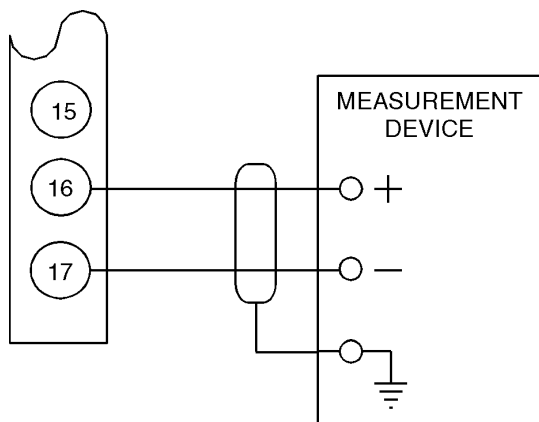

**Figure 3-2 Maximum Loop Resistance for Sensor Connection**
**Note:** The maximum loop resistance for cabling to each sensor is  $35 \ \Omega$ , i.e. the cabling and connections should not exceed  $35 \ \Omega$  total, or  $35 \ \Omega / 2 = 17.5 \ \Omega$  on each side of the sensor (See Figure 3-2).